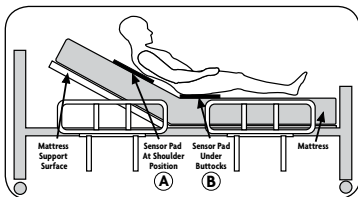

Fig. 26
3. Choose a position for sensor pad (Fig. 26):